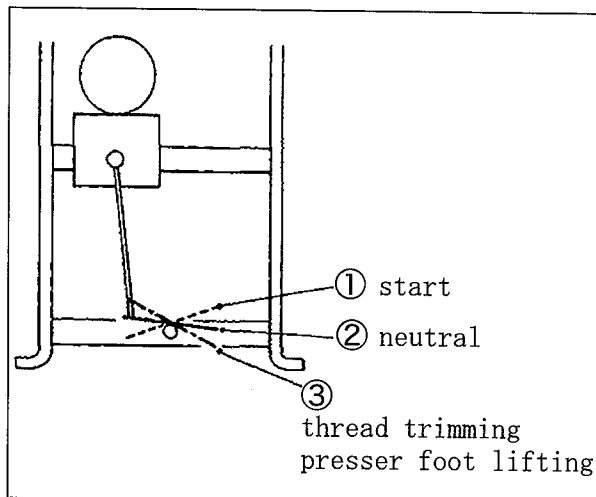

Fig. 4
- (1) Heel back the pedal to raise the presser foot.
- (2) Place a fabric under the presser foot and toe down the pedal. (Fig. 4 ①)
- (3) Release the pedal. (Fig. 4 ②)
- (4) Heel back the pedal. (Fig. 4 ③)
- (5) Release the pedal. (Fig. 4 ②)